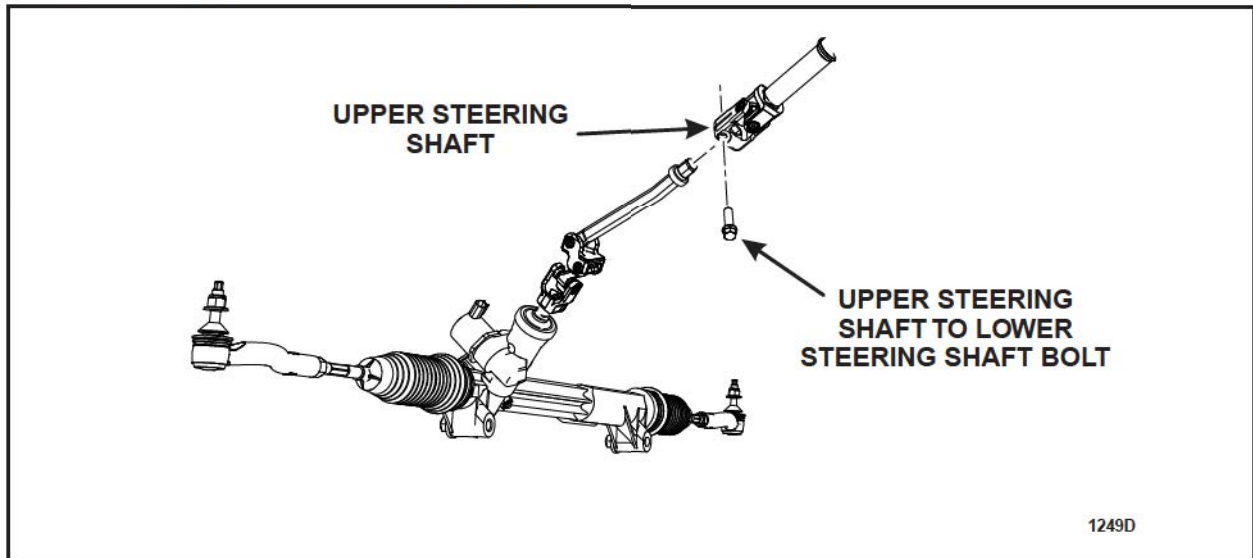

FIGURE 3
4. If not done previously, remove and discard the upper steering shaft to lower steering shaft bolt and remove the upper steering shaft. See Figure 3.
10. Install the upper steering shaft and install a *new* upper steering shaft to lower steering shaft bolt See Figure 3.